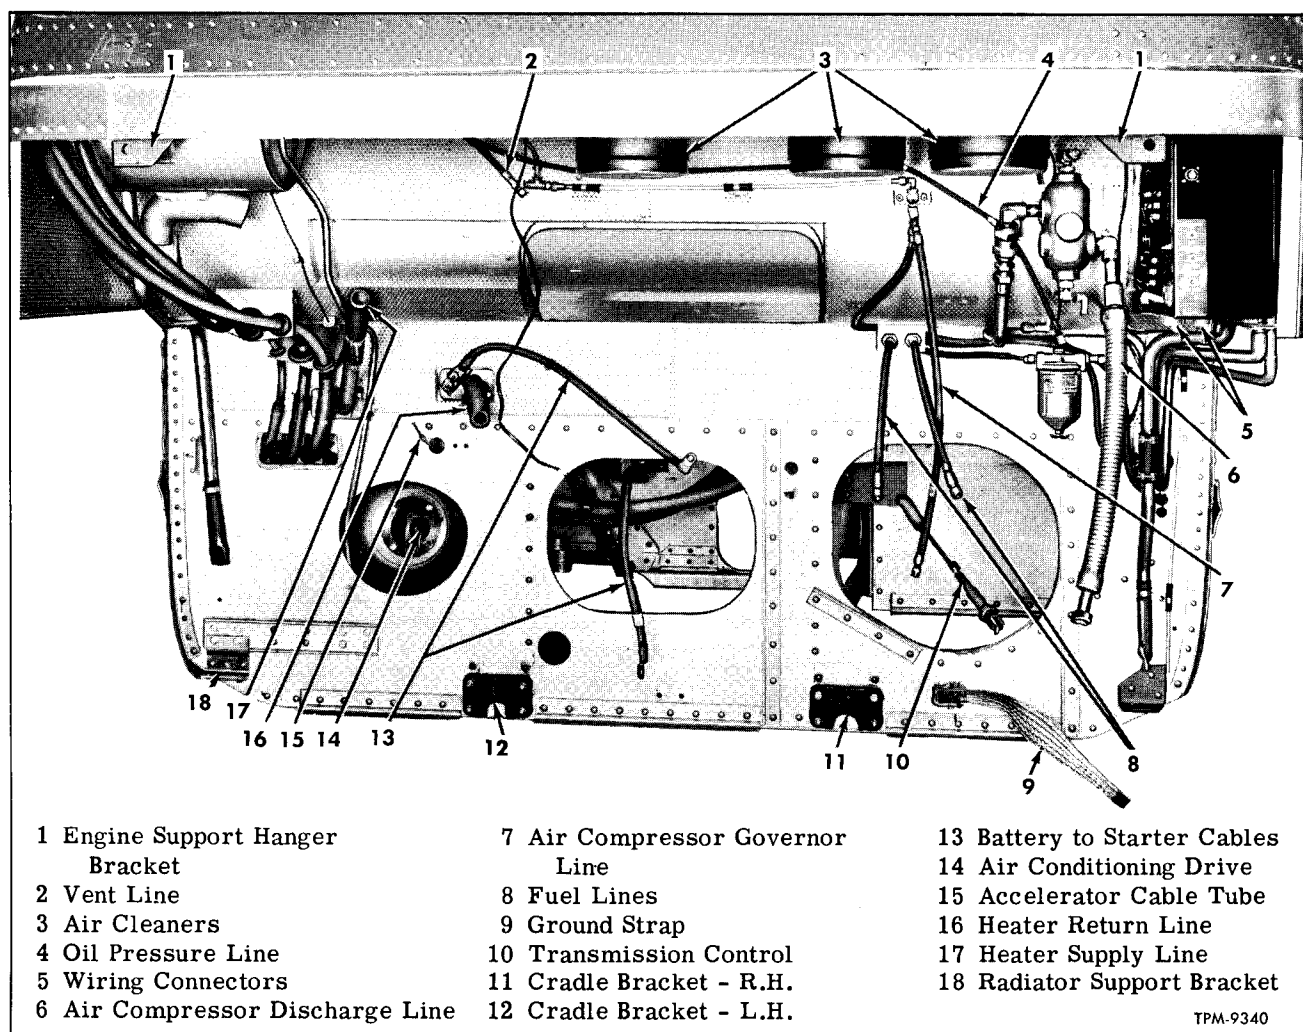
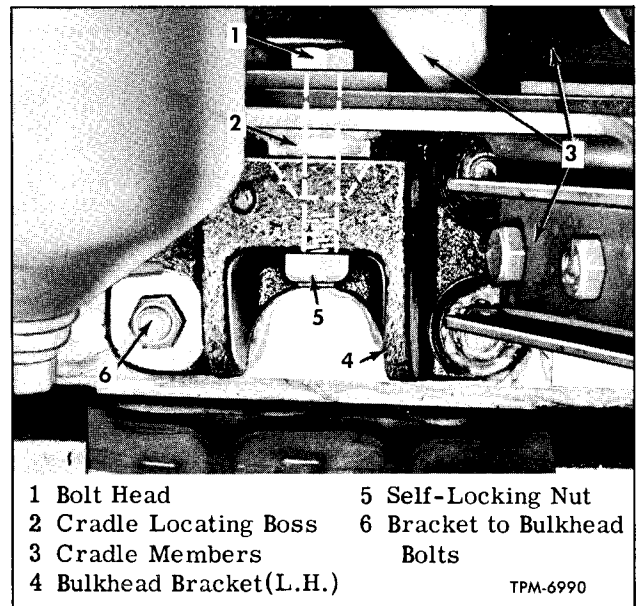

Figure 11—Engine Compartment Disconnect Points—6 Cylinder
Figure 14—Construction at L.H. Cradle Bracket at Bulkhead
Brackets (figs. 11 and 12) at lower edge of bulkhead support the front side of cradle, while rear side is supported by two tube and plate assemblies suspended from support beam at rear of coach body. Instructions which follow describe method of replacing the complete power plant assembly. A special dolly must be used to support the power plant at cradle, and provide a means for moving the assembly out of engine compartment. Refer to figure 11 and 12 for location of various disconnect points in replacing power plant.
Key numbers in text refer to figures 11 and 12 unless otherwise indicated.
bracket (16, fig. 11) and bolt and rubber mountings at radiator upper support.
1. Move power plant assembly into position, with cradle engaging brackets (11 and 12). Install bolts with nuts at bottom (fig. 14).
2. Install support hangers and connect at brackets (1). Tighten all bolts including those at bulkhead brackets firmly.
4. On 6-cylinder engines only, connect radiator support member at bracket (16, fig. 11), and install radiator mounting parts at upper support, also tighten hose clamps at radiator connection on surge tank.
6. Connect oil pressure line (4) at engine, and connect air line between solenoid valve and shut-off air cylinder on engine governor.